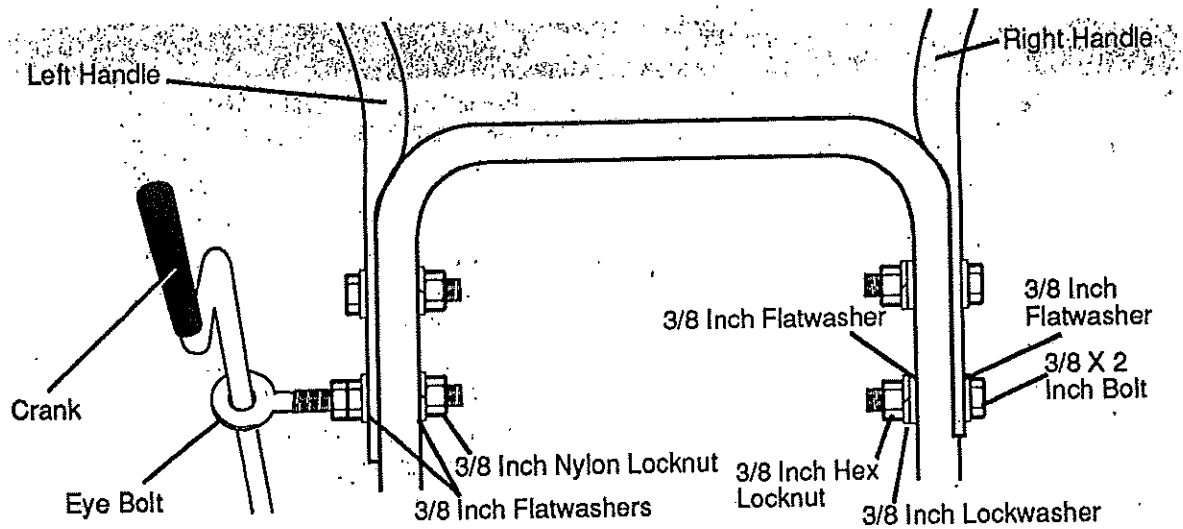

FIG. 4-ASSY
- On the right side of the handle, install the following (found in parts bag) in the lower hole as shown in FIG. 4-ASSY:
- Install "eye" bolt through lower hole on the left hand side of the handle (See FIG. 4-ASSY for order of hardware).
- Tighten all handle bolts (See FIG. 4-ASSY).